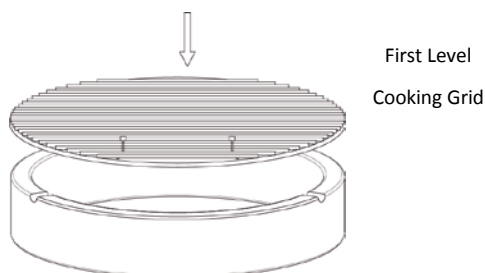

Figure 5
**STEP 7** Place the 304 Stainless Steel first level cooking grid on top of the fire ring with the hinged accessing door in the front of the grill. (See Figure 5)